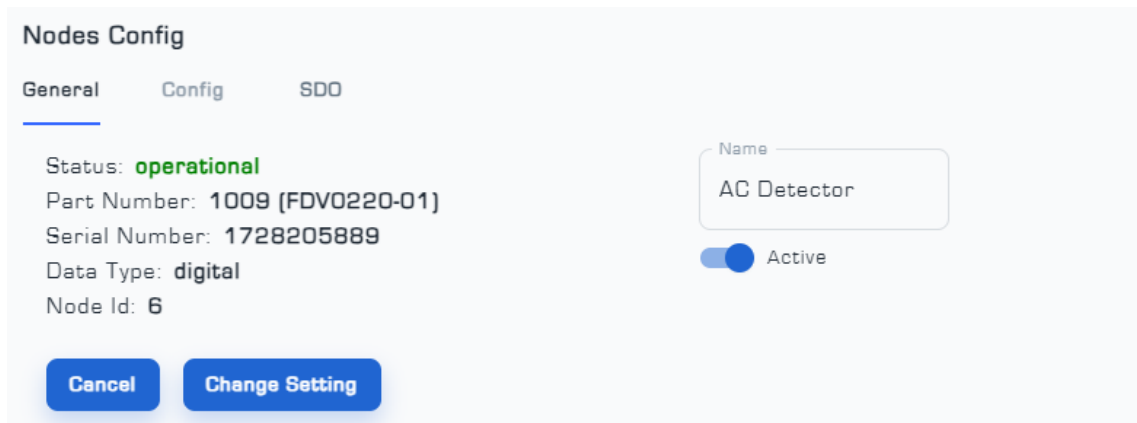

Figure 6: General menu from nodes config page
To apply the settings to the Node, click on it to display the Node settings page (Nodes Config) (Figure 6).
- The General menu includes information about the Node status, model, serial number, input data type, and Node number. You can also choose a custom name for the Node and even deactivate it if necessary (Figure 6).